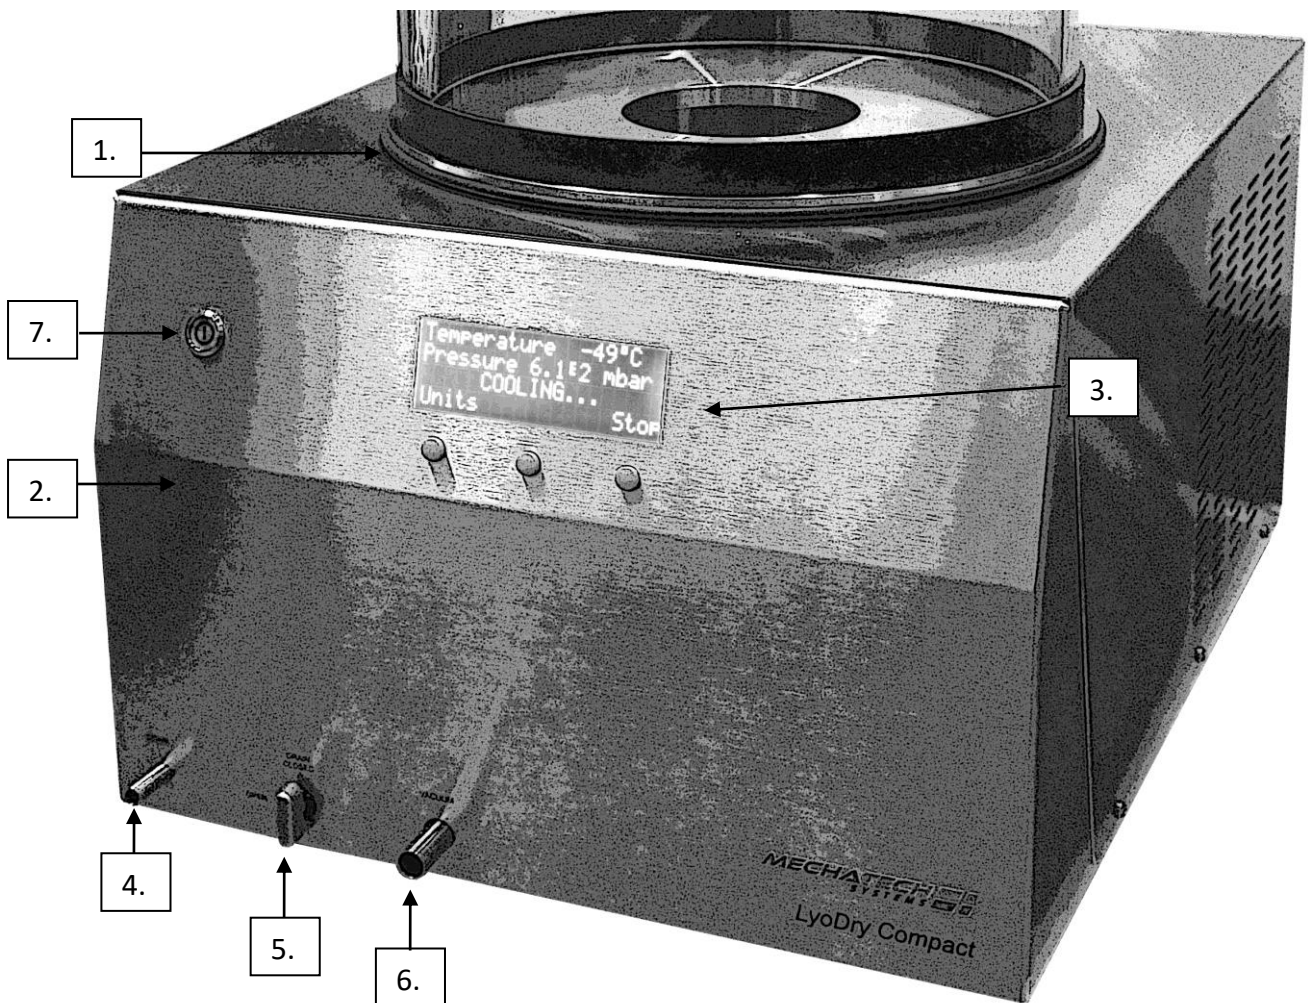

Figure 1 – LyoDry Compact.
2. Press the On/Off switch (item 7, figure 1)
3. The display (item 3, Figure 1) on the front panel should be illuminated.
8. Attach an empty drying accessory to the accessory flange (item1, Figure 1).
The LyoDry Compact has a condenser chamber, a refrigeration system and a control system which includes temperature and pressure indication and user controls. The refrigerant used in the LyoDry Compact is CFC free. All of the LyoDry Compact components are all housed in a stainless steel cabinet which is designed for bench-top use. The components are described in the following sections (see figure 1 for the locations of components).